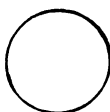
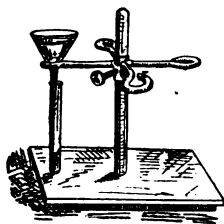

Fig. 9.
Fig. 10.
7. Fold a filter paper (Fig. 9), pour the sol. upon it (Fig. 10), and catch the fil. in a clean t.t. Does it seem probable that the sugar has or has not gone through the filter paper? What proves this conclusively? Examine filter paper and filtrate.